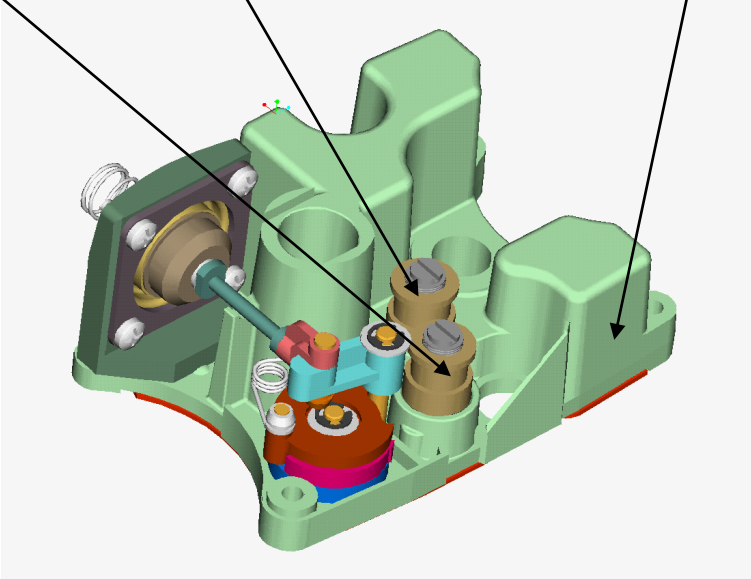

Figure 9
- 6.8.5. The timing valves are located partially under the gauge (See Figure 9). Early models have white thumb wheels for valve adjustment. Later models have a screwdriver slot.